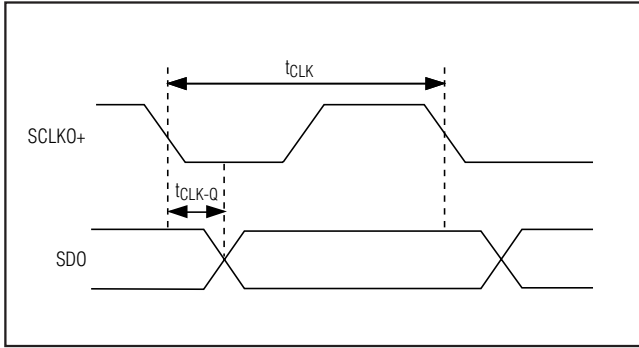

Figure 3. Definition of Clock-to-Q Delay
- Note 10:** Relative to the falling edge of the SCLKO+ (Figure 3).